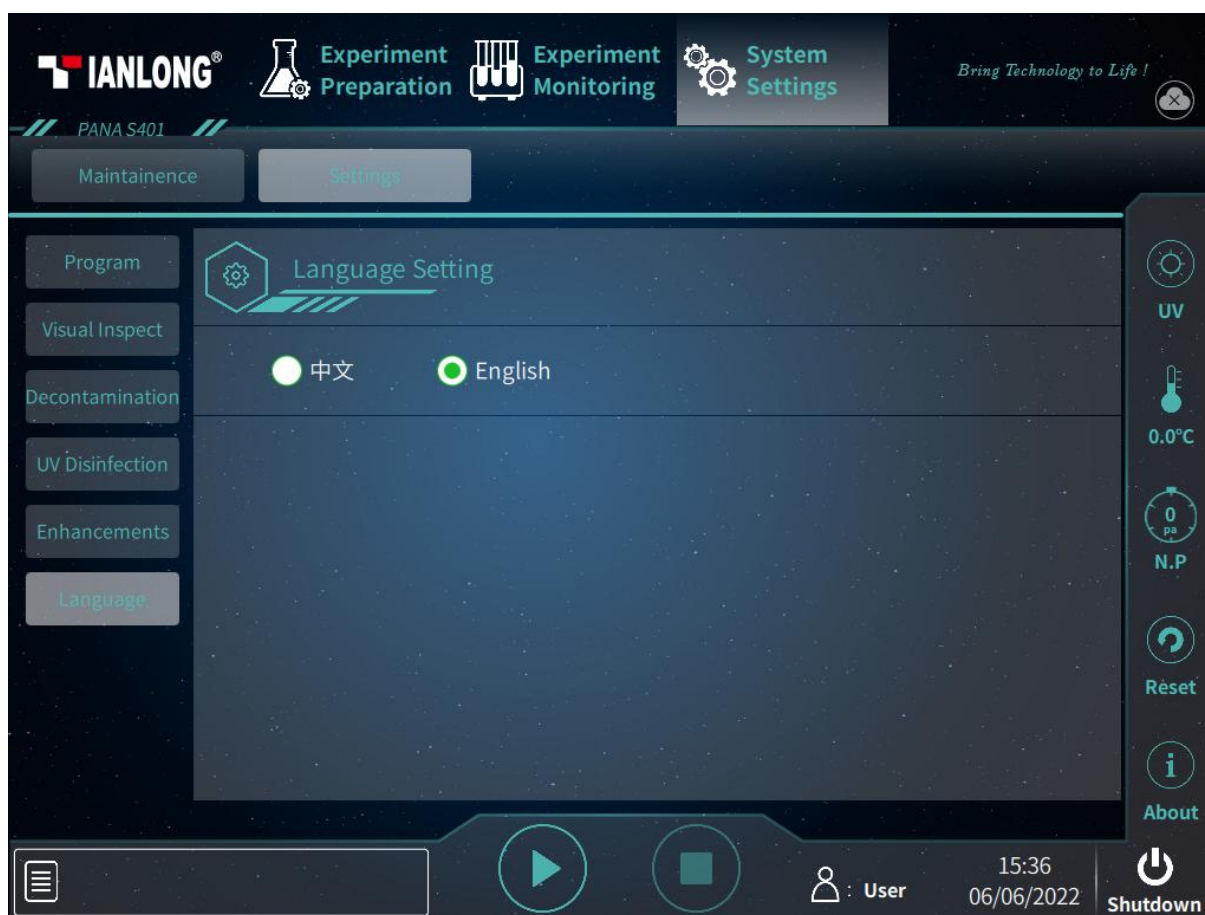

Figure 5-27. System Settings Interface – Settings Tab – Language
- **< Language >**: Handling System provides Chinese and English two software languages. User could click this function key to select the system language by checking corresponding check box, as shown in figure 5-27.